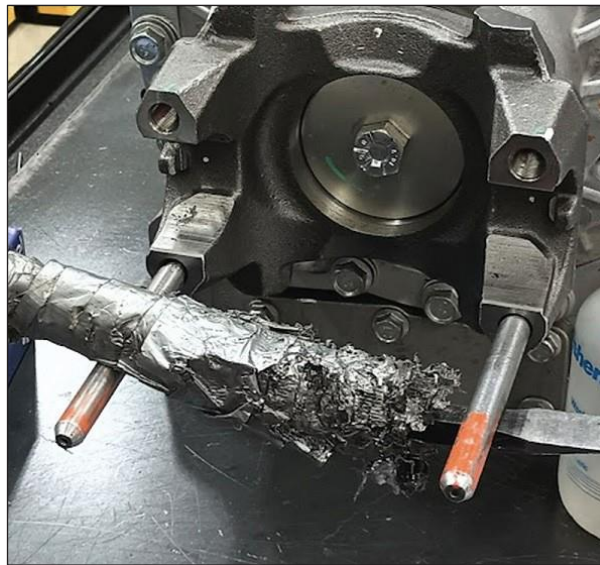

Figure 1 - Secure Yoke so it Will not Rotate (Example)
- 1.8. Use a pry bar or a yoke holding fixture to secure the yoke so it will not rotate (see an example at Figure 1).